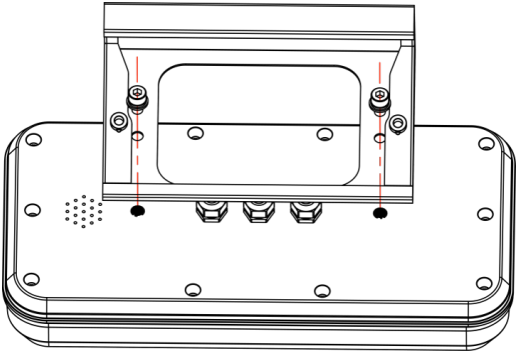

Figure 3-3
**Step 3:** Install the metal bracket on the host, as shown in the figure 3-3 below.